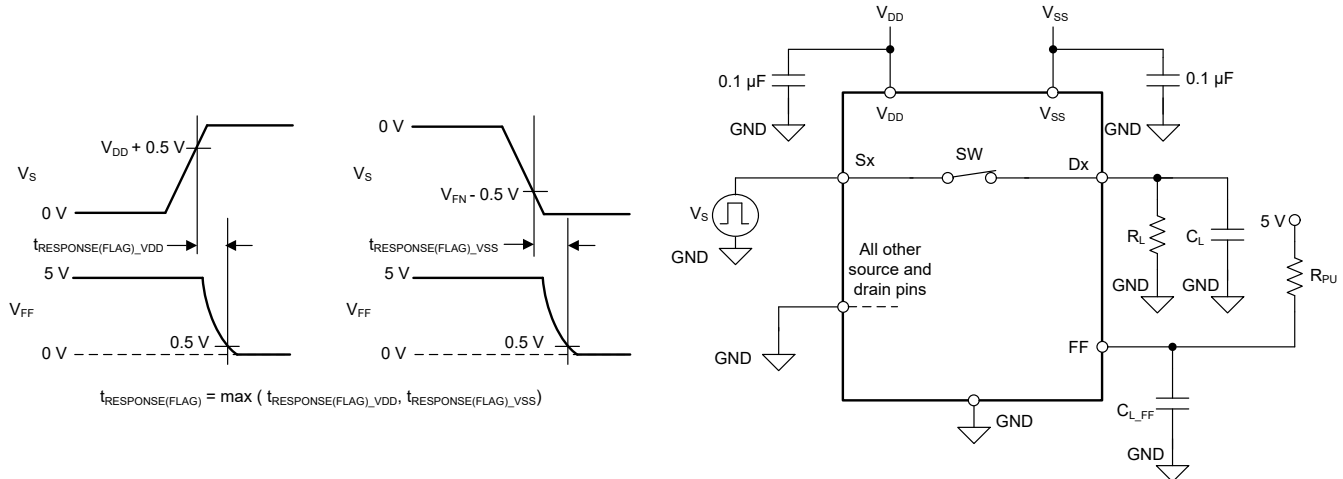

图 8-9. Fault Flag Response Time Measurement Setup
Fault flag response time ($t_{\text{RESPONSE(FLAG)}}$) measures the delay between the source voltage exceeding the fault supply voltage (V_{DD} or V_{SS}) by 0.5 V and the general fault flag (FF) pin to go below 10% of its original value. 图 8-9 shows the setup used to measure $t_{\text{RESPONSE(FLAG)}}$.